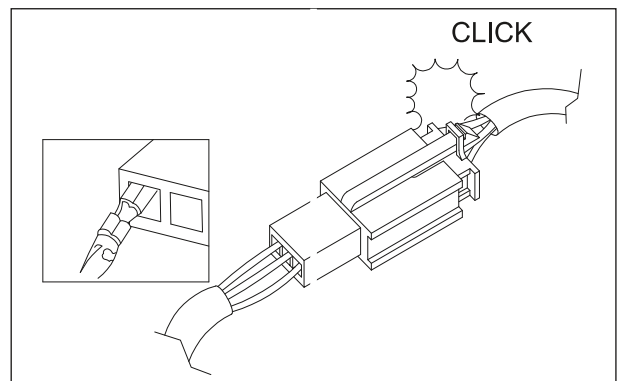

Fig. 6.4
- With a lock type coupler, be sure to release the lock before disconnecting it and push it in fully till it gets locked. (Fig. 6.4)